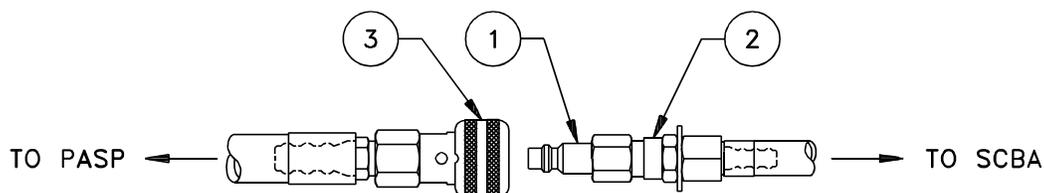

Figure 6-16. LP Hose Assembly
- (1) Push exhalation valve (18) through opening in facepiece, positioning valve so that the MSA logo is right side up with respect to the facepiece. Ensure facepiece is flush with flat portion of valve so that all valve inlet threads fully protrude through rubber.
- (2) Fold chin cup down and install exhalation valve retaining nut (17) on valve threads. Hand-tighten nut.
- (3) Use spanner wrench to tighten retaining nut (17).
- (4) Don the facepiece and check the face-to-facepiece seal following the procedures outlined in paragraph 6.7.1.
6.7.7 LP Hose Assembly Repair (Figure 6-16).